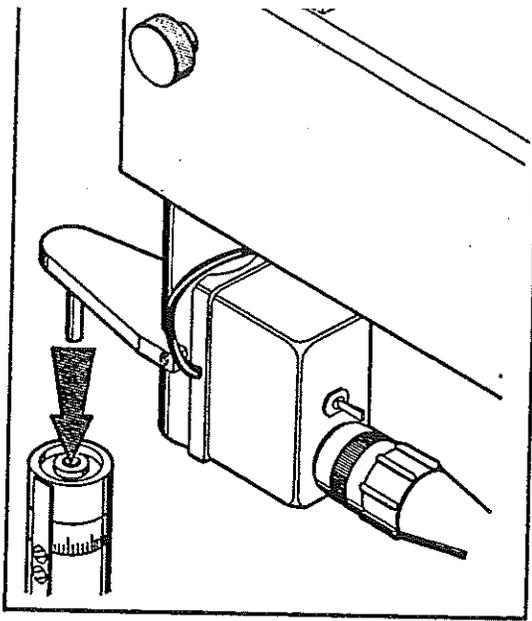

Fig. 4
- (b) Place the 8 mm shaft of the Flash Unit into the socket (Fig. 4).